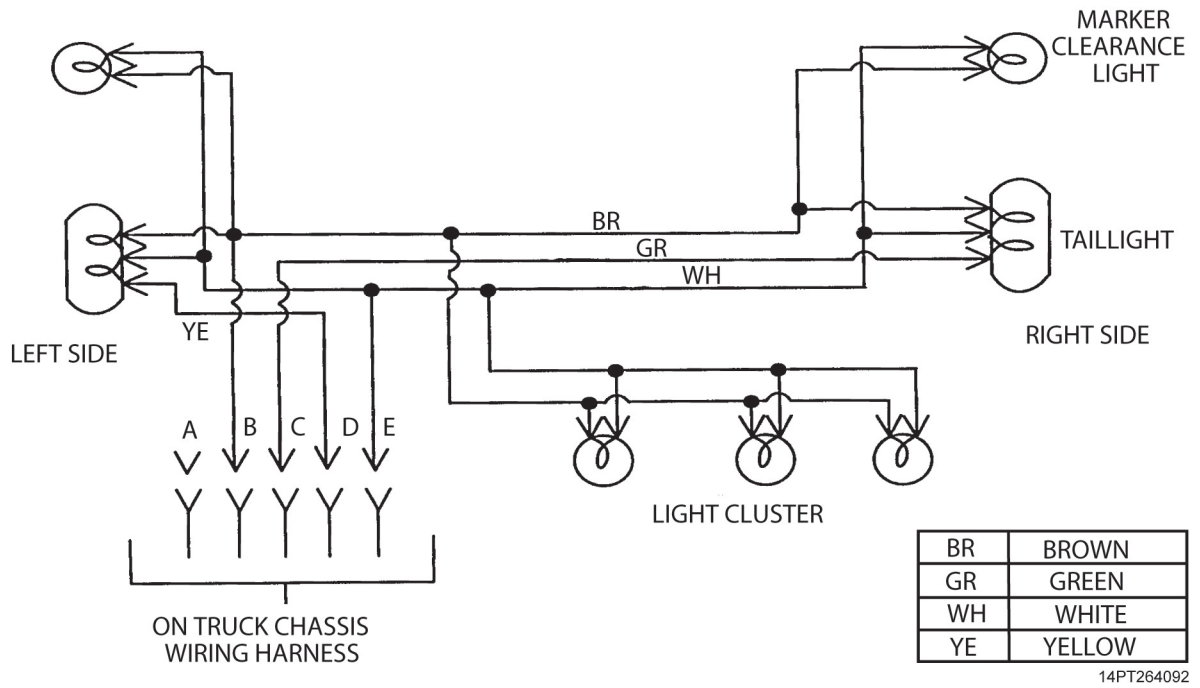

Figure 5. Dump Body Taillights and Marker Clearance Lights Diagram.
- Figure 5 Dump Body Taillights and Marker Clearance Lights Diagram.